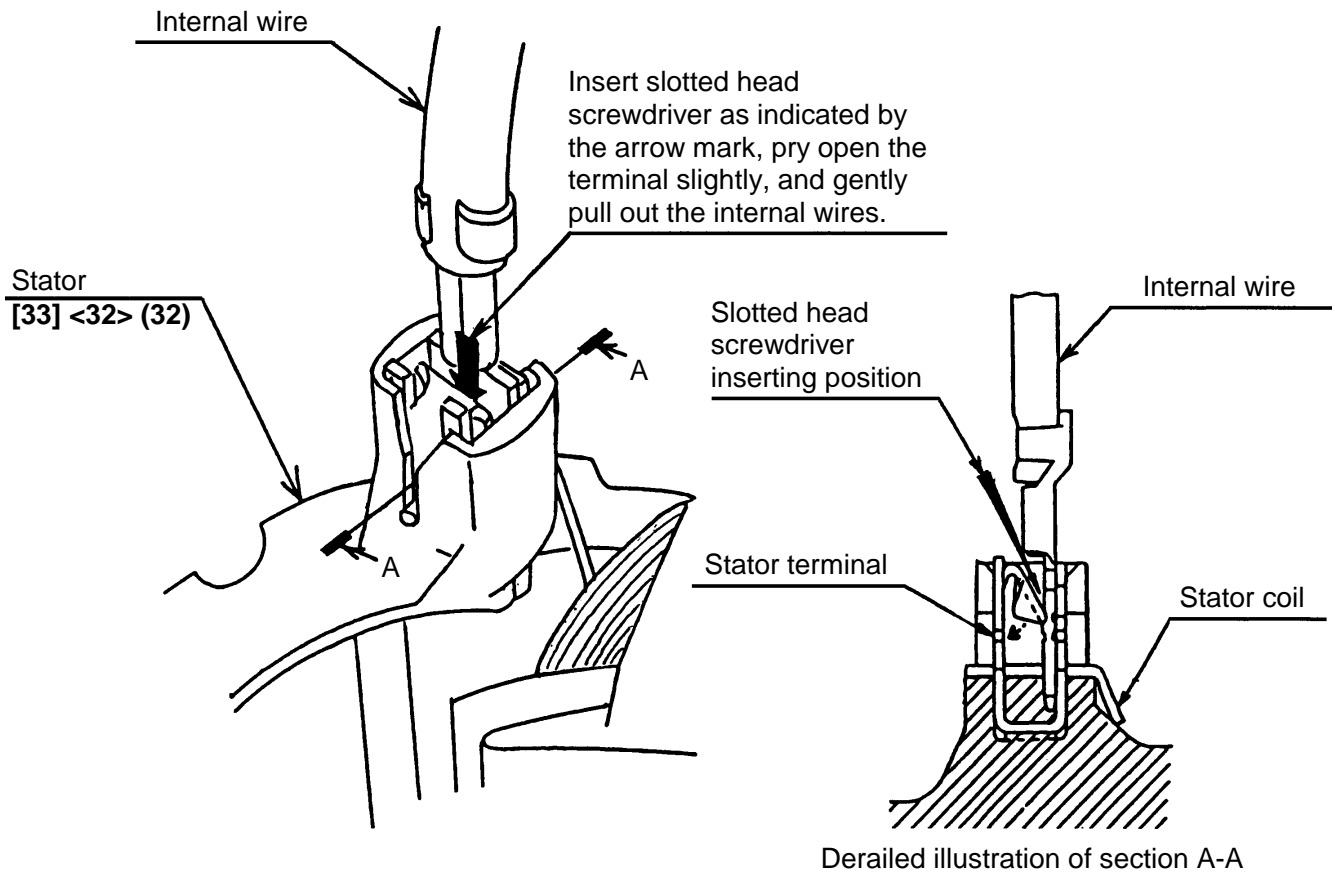

Fig. 10
(4) Removal of the internal wire from the stator
Be sure to follow the method shown in Fig. 10 when removing the internal wire from the Stator [33] <32> (32).